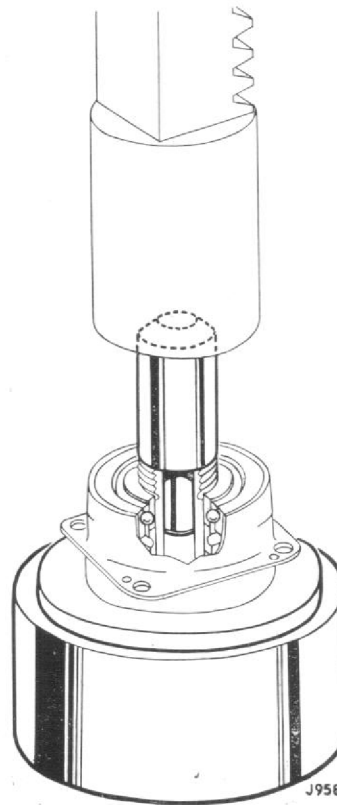

Fig. 6. Split bush T.74756, pot fixture T.74757, and adapter T.74748, for removing bearing from lower driving gear.
T.74757 and using adapter T.74758, press out the lower driving gear, Fig. 6.